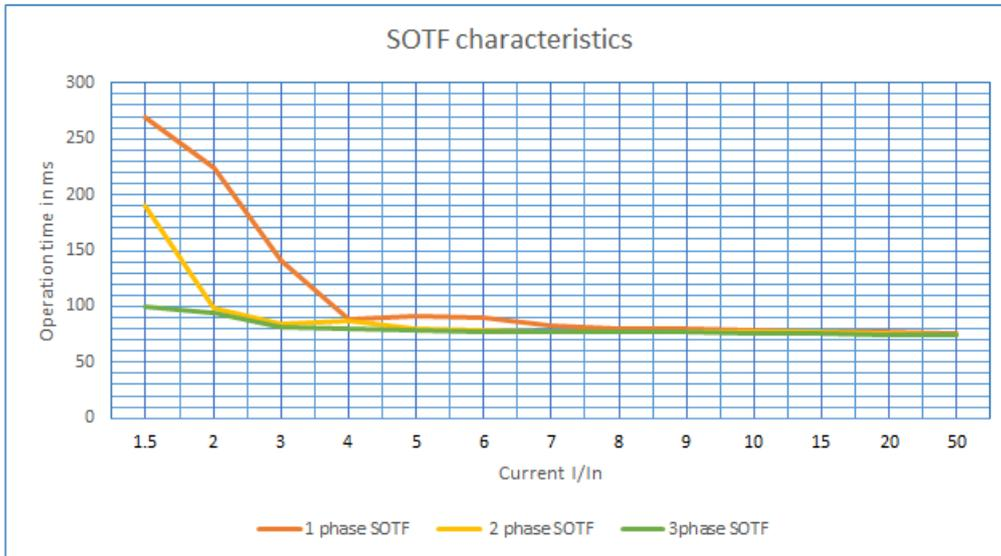

Figure 2: Switch-on to fault characteristics of relay REJ603
1. Operation time accuracy for protection functions shall be as indicated in Table 22-27 when relay is in energised condition. The operation time measured when relay is in un-energised condition, shall be as per switch-on to fault characteristics Table 29 and Figure 2. Please refer application manual for operation time accuracy class definition of accuracy class.